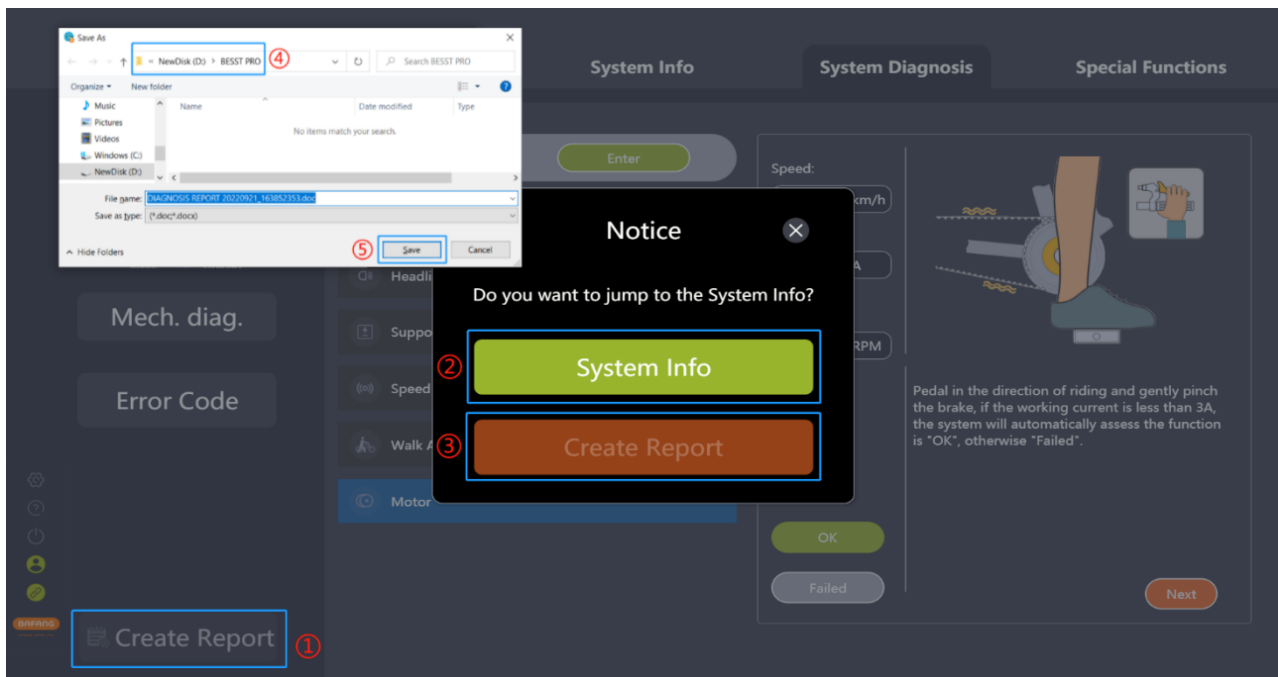

Fig. 7-8 Create report in System Diagnosis
- (1) Click on the “Create Report” icon and a pop-up will prompt “Do you want to jump to the System Info?” (Fig.7-8).
- (2) To read system information, click “System Info” to jump to the system information interface.
- (3) Click on the “Create Report” icon.
- (4) Select the local save path.
- (5) Click the “Save” icon to generate a PDF report.